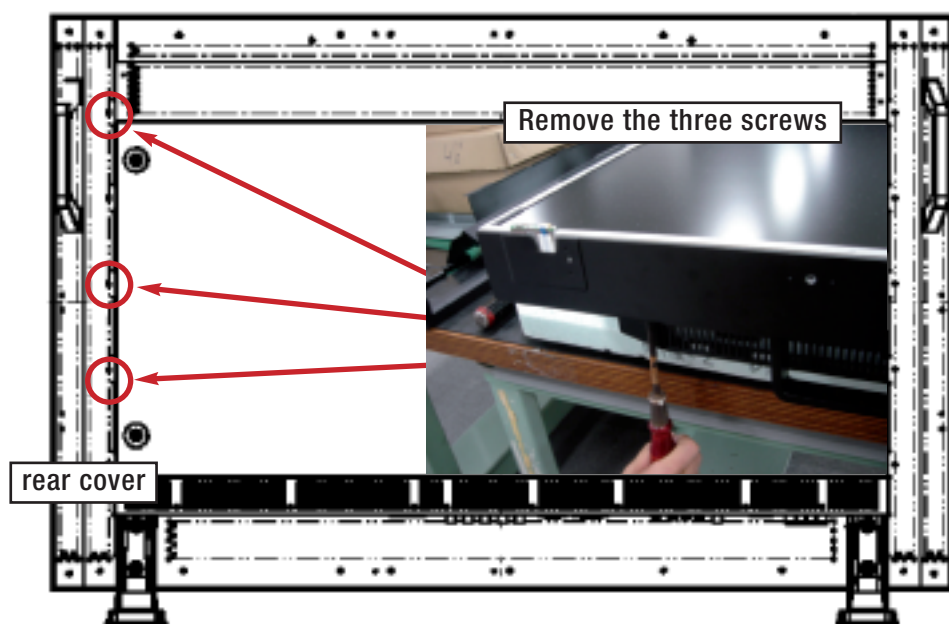

Figure 2.1
2.1) Remove the part of the rear cover indicated in figure 2.1 and the BRACKET PWB IR. (Number of the screws that hold the rear cover is 3 pieces.)